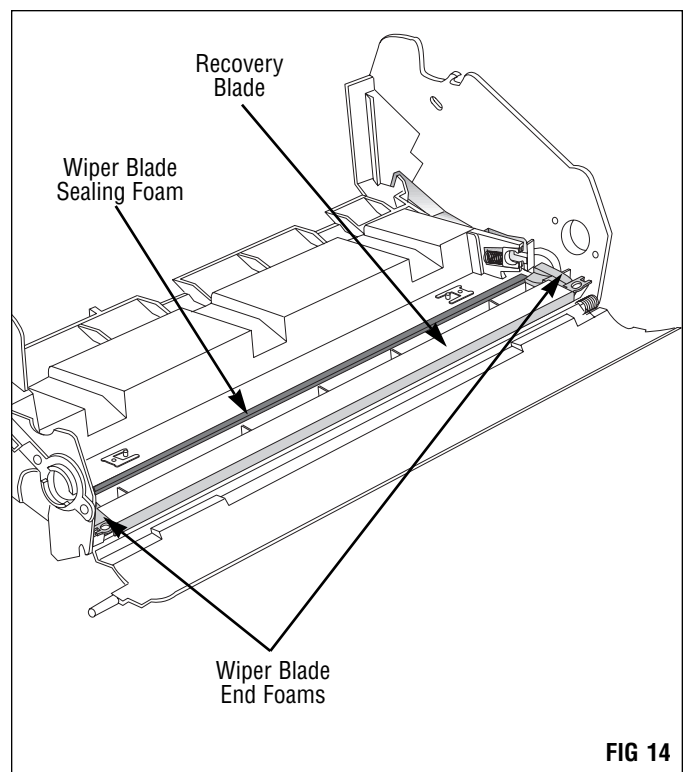

FIG 14
6. Inspect the wiper blade sealing foam, wiper blade end foams, and recovery blade (FIG 14).